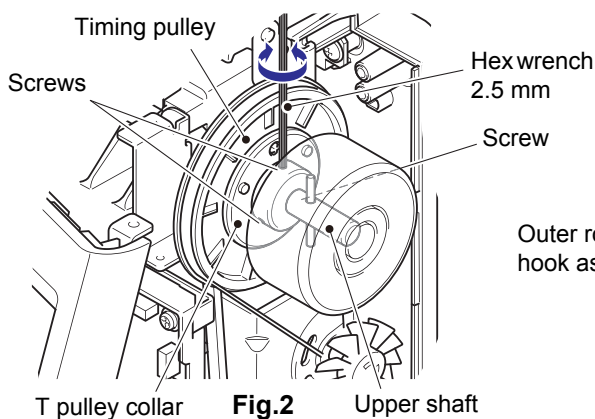

Fig.2
8. Loosen the 3 screws of the T pulley collar. (Fig.2)